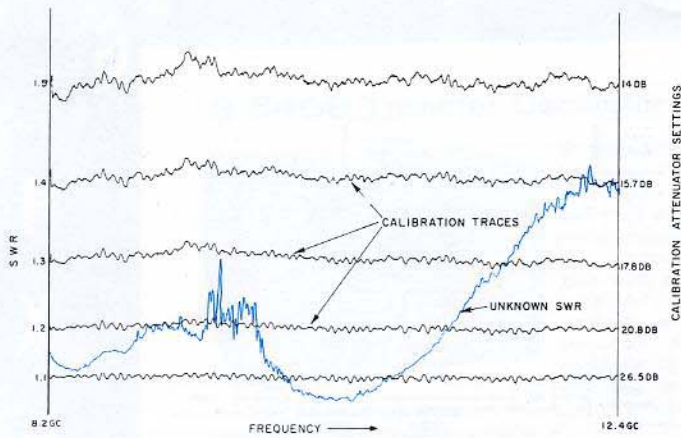

Fig. 2 Typical SWR plot.
- ▶ Reset the attenuator to simulate other SWR values and plot additional calibration lines. A series of typical calibration lines is shown in Figure 2. Two calibration lines give enough information for go/no-go tests.
- ▶ Return the standard attenuator to zero db and trigger the final measurement sweep. The colored trace in Figure 2 shows an instrument SWR characteristic between 8.2 and 12.4 GC.